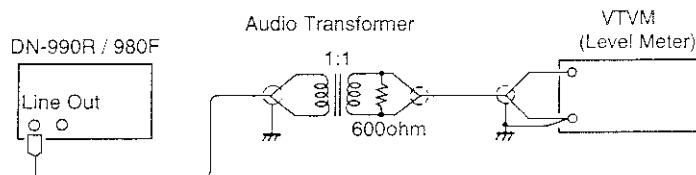

Fig.26 Connection for Output Level Adjustment
- 1) Connect VTVM to the output connector of DN-990R(DN-980F). Use 1:1 600 ohm Audio Transformer between the unit and VTVMs in order for matching the unbalanced input of VTVM and the active balanced output of DN-990R(DN-980F) as shown in Fig. 26.